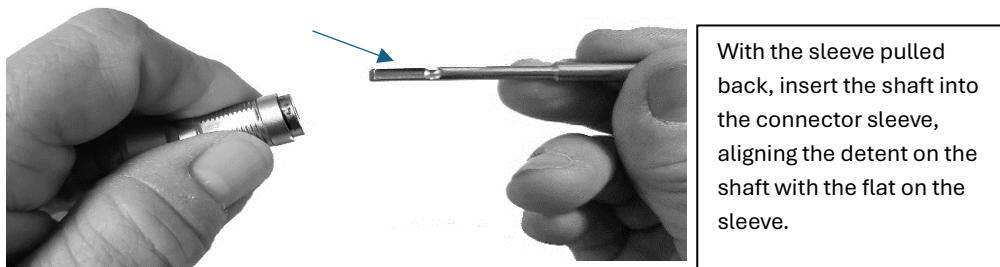

FIGURE 1
- Slide the sleeve of the Reusable Surgical Arm back towards the arm and insert the shaft of the Heart Assist Finger into the connector sleeve/quick connect with the detent on the shaft (of the attachment) facing the flat area on the sleeve of the Reusable Surgical Arm (see Figure 1).